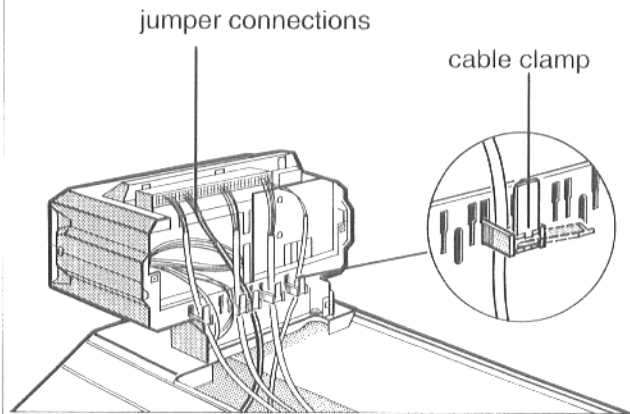

Fig. 17
- Take the burner cable towards the rear under the front of the boiler jacket and connect to the plug connections in the control panel as indicated there (Fig. 17).
- Make on-site electrical connections to the plug connections according to the circuit diagrams supplied with the Ecomatic control panel (Fig. 17).
- Fasten all cables in suitable cable clamp clips: Insert the cable clips with cable inserted from above in the slot of the clip frame. The base of the lever must point upward. Push down the cable clip and press on firmly. Lift the lever upward to clamp down (Fig. 17).